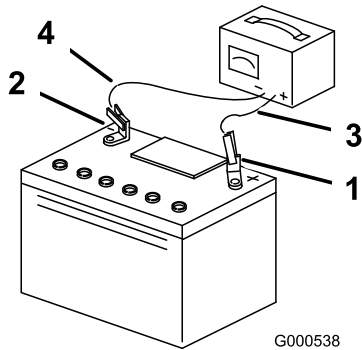

Figure 56
3. When the battery is fully charged, unplug the charger from the electrical outlet, then disconnect the charger leads from the battery posts (Figure 56).